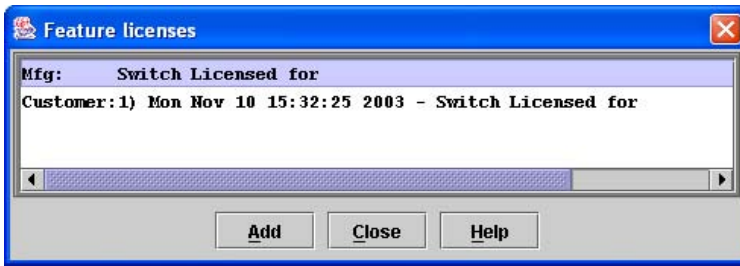

Figure 41 Features Licenses dialog
3. Select **Switch > Features** to display the Feature Licenses dialog shown in Figure 41.